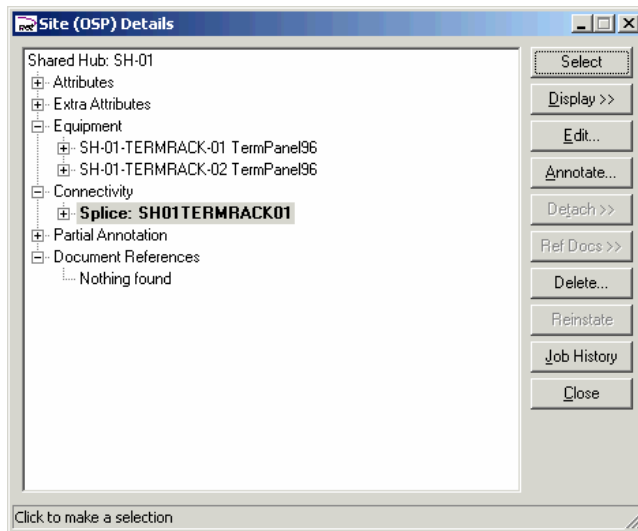

Figure 89 – Site (OSP) Details panel, with Splice Location selected
4. Finally, examine the contents of the Splice Location by expanding the **splice** branch under the **Connectivity** heading in Figure 89. You should find the port banks for the two term panels located there, as shown below.